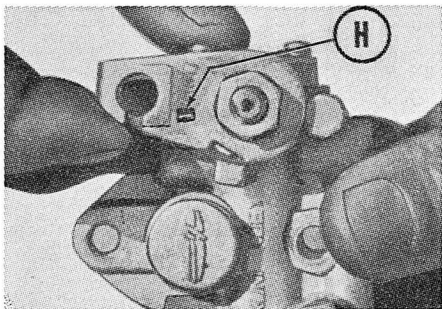
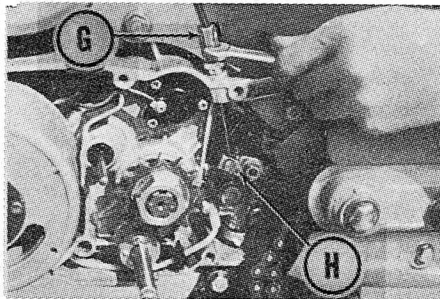

Fig. S2-6—View of the oil pump adjustment hole aligned with the mark on pump body. Hole should align with mark when the throttle is in maximum speed position.
Fig. S2-7—With the throttle at full open, turn cable guide (G) until hole (H) in lever is aligned with mark on pump body.
then check the hole (H—Fig. S2-6) in lever and the mark. If the mark is not centered in hole (H), loosen the lock nut and turn the cable guide (G—Fig. S2-7).